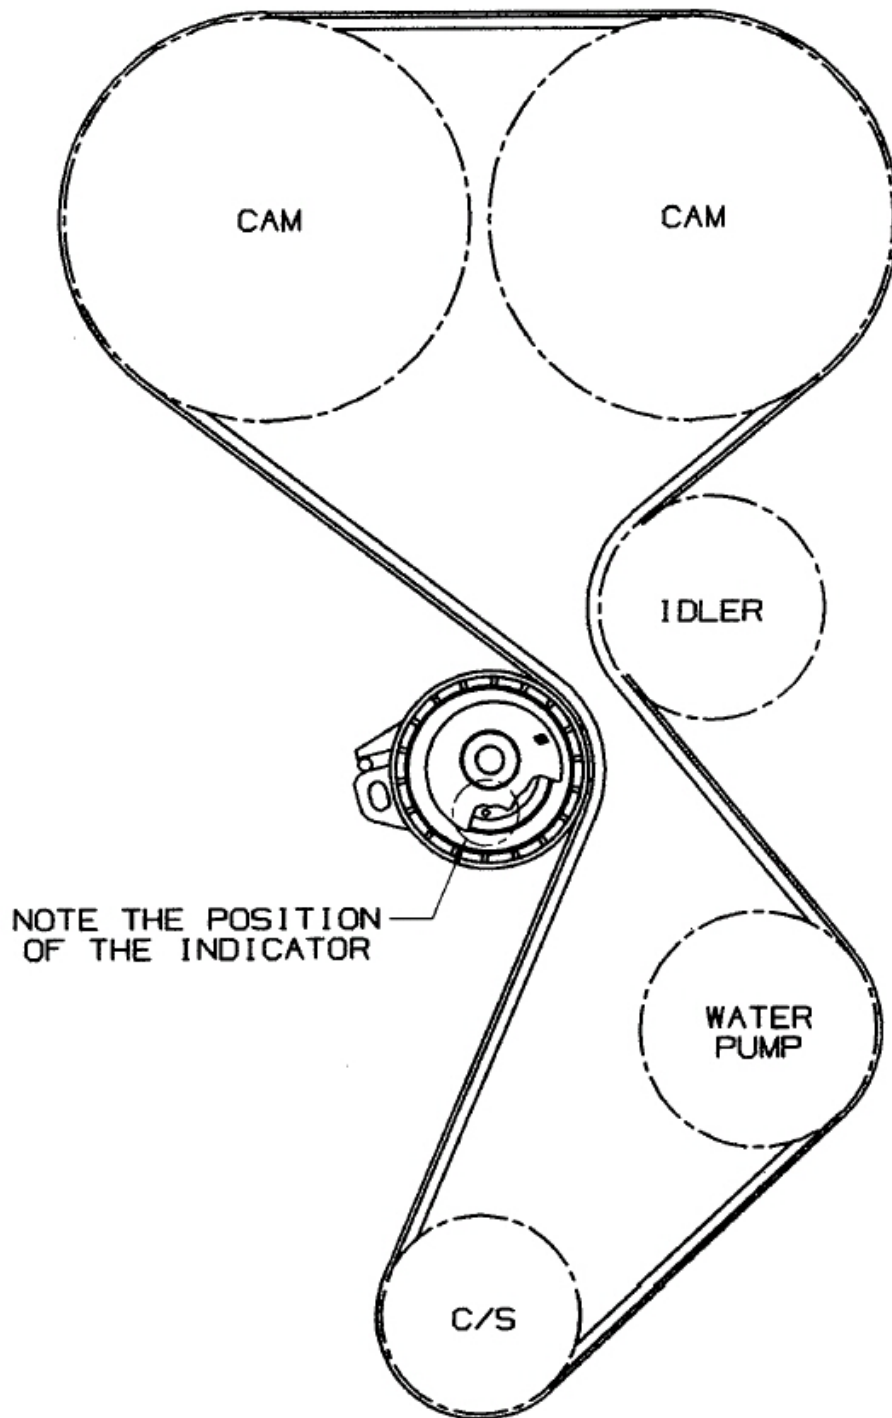

Figure 4: Proper Initial Setup of Tensioner.
7. Push the tensioner into the belt using the installation tool. The tensioner assembly will move against the belt and the Arm will eventually start to move CLOCKWISE. Continue pushing the tensioner until its maximum travel position (See Figure 4).
9. Rotate the crankshaft two (2) complete revolutions manually for proper seating of the belt until the crankshaft is repositioned at the TDC position.